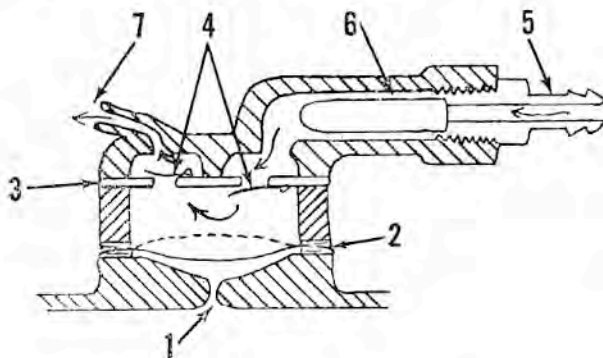

Fig. WB13 — Schematic view of the diaphragm type fuel pump used on all models. Check valves are of the reed type.
**FUEL PUMP.** A diaphragm type fuel pump is attached to the transfer port cover for the upper crankcase. Pressure and vacuum pulsations from the crankcase are directed through the port (1—Fig. WB13) to the rear of diaphragm (2). When the powerhead piston moves upward in its cylinder, vacuum in the crankcase draws the diaphragm inward and fuel enters the fuel chamber through filter (6) and the inlet reed valve (4) in reed plate (3). As powerhead piston moves downward, pressure forces